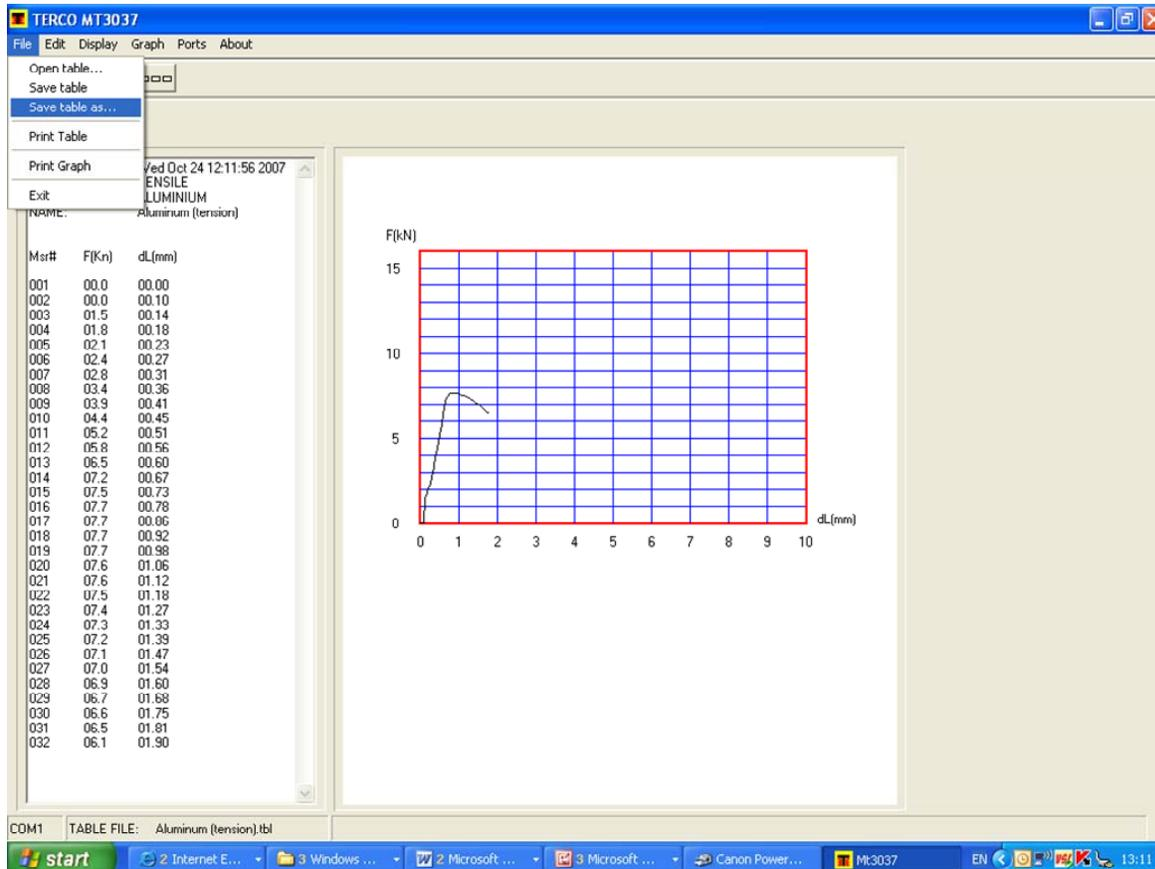

Fig. 4.18: Final test results
- The machine starts and the cylinder moves slowly upwards. Meanwhile, the measuring values are stored in a table with four measurements per seconds as shown in Fig. 4.18.
11. Save the table and the graph as shown in Fig. 4.18.